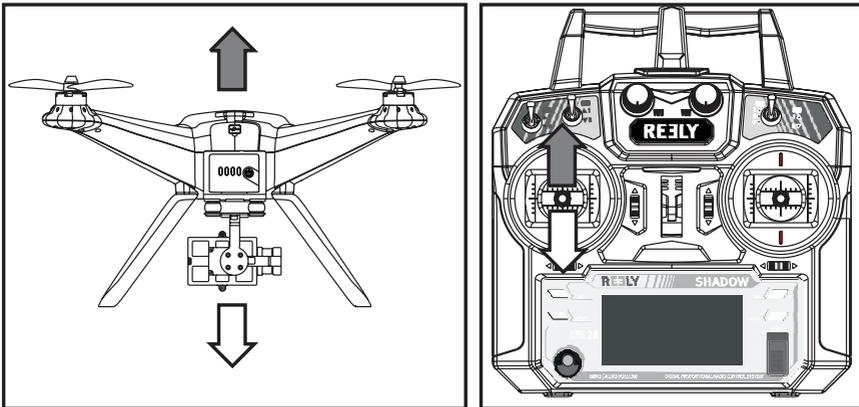

Figure 18
With the pitch function you can control the flight altitude of the quadcopter (see figure 18). The left control stick (also see figure 7, item 16) is used for control. In contrast to other remote control systems, where the control stick for the pitch function can be moved forward and back without springing back to the middle position, the pitch control stick has a middle position in the quadcopter „Shadow“ in which it is held by spring force.